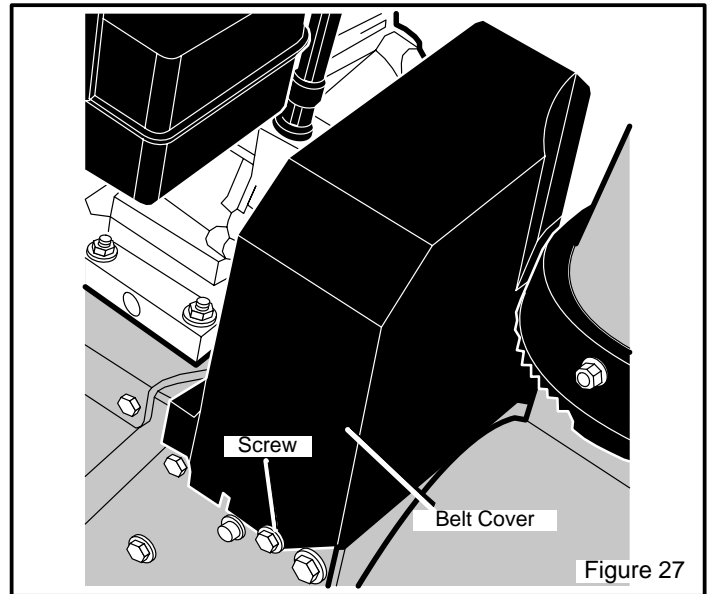

Figure 27
2. Remove **screw** from **belt cover**. Remove **belt cover** (see Figure 27).
4. Remove **screw** from **belt cover**. Remove the **belt cover** (see Figure 27).
11. Install the **belt cover**. Tighten **screw** (See Figure 27).
15. Install the **belt cover**. Tighten **screw** (see Figure 27).